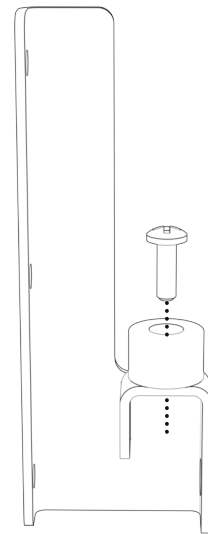

FIGURE 6
From the bottom of the screw, attach (1) of the 8-32 nuts to secure the screw and the bumper to the arm stop bracket (See Fig. 6).